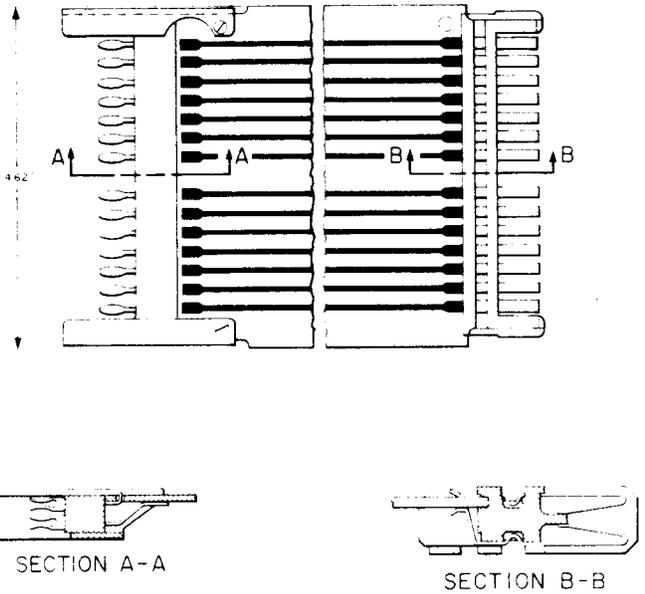

Fig. 6—728B Extender Tool
2.14 728B: The 728B extender tool (Fig. 6) permits circuit packs in the No. 101 ESS switching equipment to be extended for testing purposes. This extender has 28 terminals.